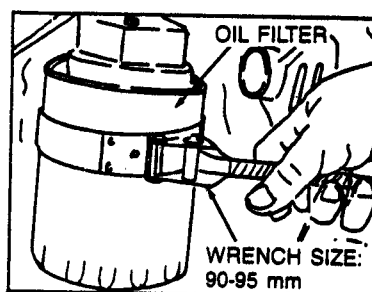

Figure 2. Removal of Oil Filter
- a. Turn filter counterclockwise to loosen. See Figure 2. Remove and discard the old filter.